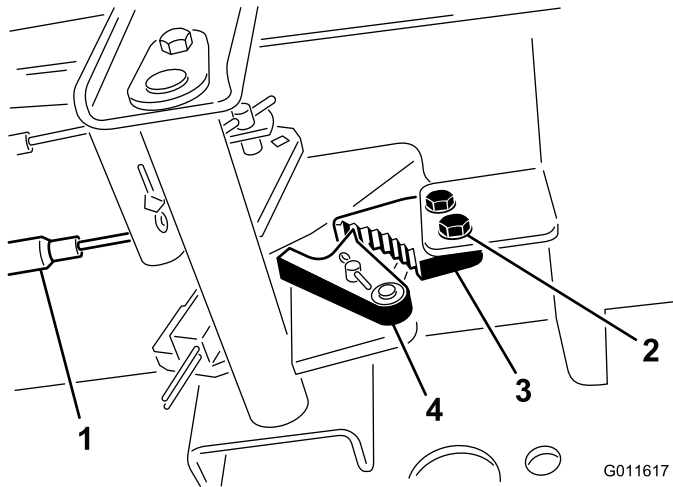

Figure 66
1. Loosen the 2 screws securing the parking brake pawl to the frame (Figure 66).
2. Press the parking brake pedal forward until the brake detent completely engages on the brake pawl (Figure 66).